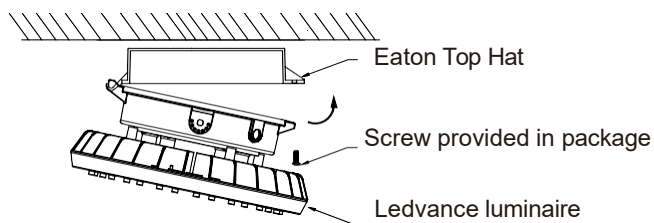

Figure 1
5. Hang the LEDVANCE luminaire from Eaton's existing top hat as shown in Figure 1.